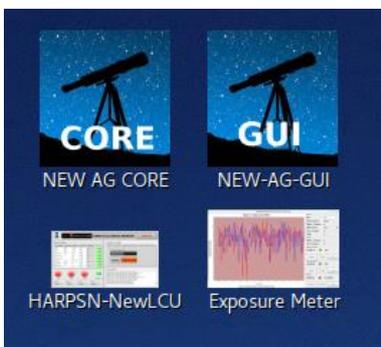

Figure 5 - WSOPER workstation desktop
- a) Click on the **HarpsN-NewLCU icon (Figure 5)**, or open a shell from any linux machine and type: `rdesktop -T LCU 161.72.92.20 -g89%`